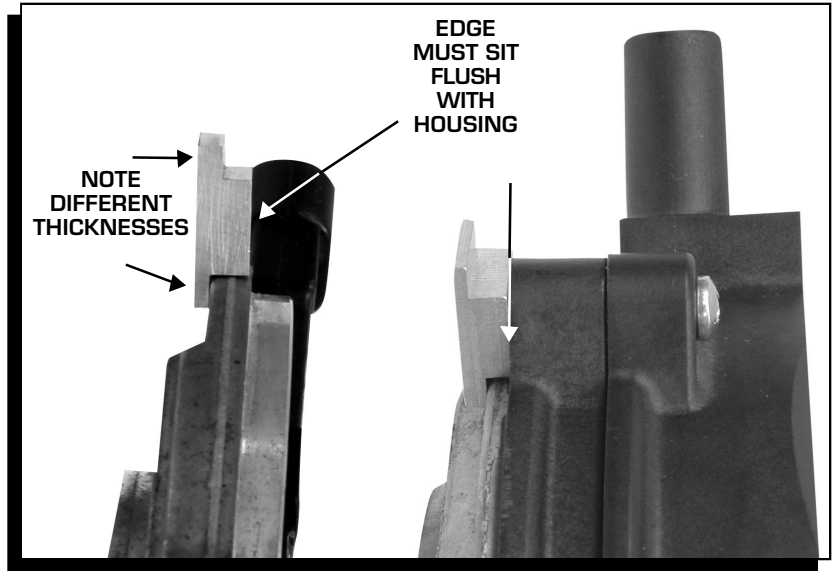

Figure 6 Installing the Clamp-Block.
5. Note that the Clamp-Block has two different thicknesses (Figure 6). Some distributor housings have a machined surface while others are cast. Determine which side works best in your application to secure the top mount of the cap. Once the direction is achieved, slide the Clamp-Block into position and screw the standard Phillips screw into position (Figure 6).